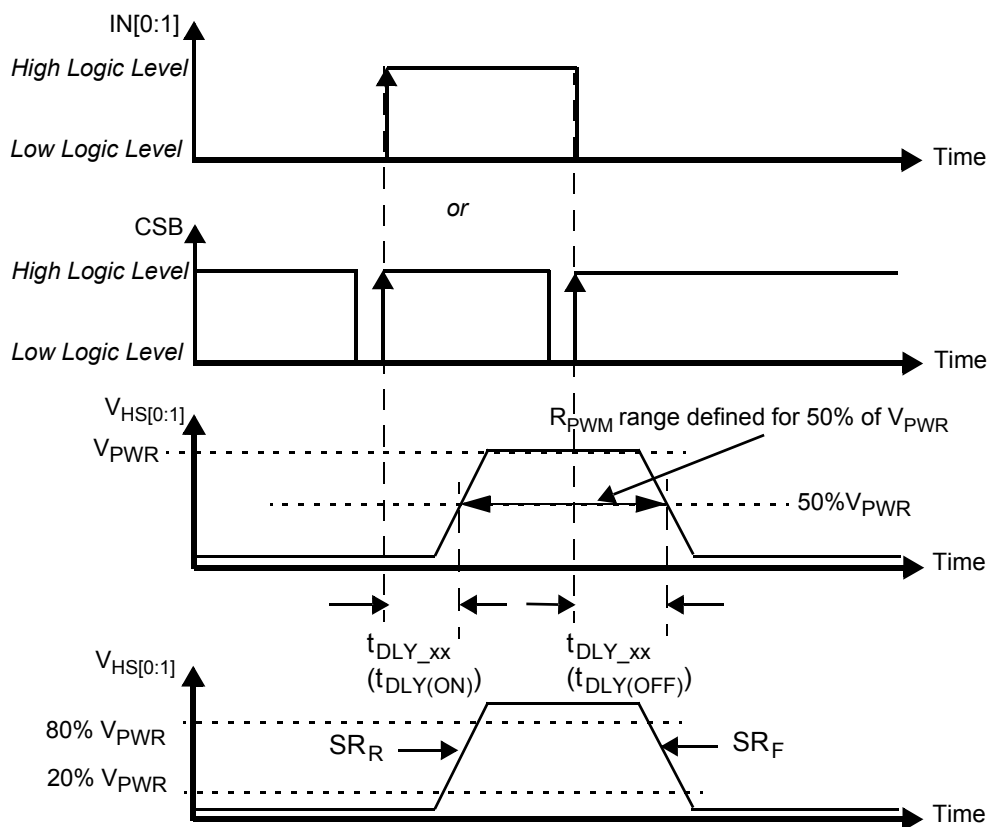
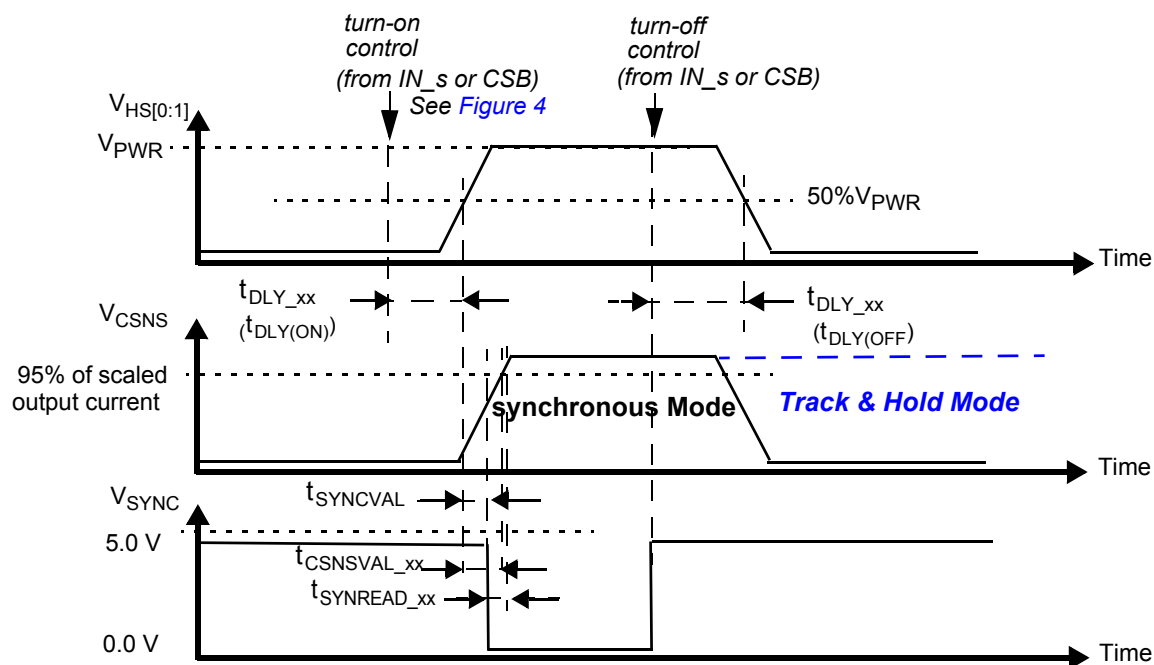

Figure 4. Output Voltage Slew Rate and Delay
Figure 9. Synchronous & Track-and-Hold Current Sensing Modes: Associated Delay & Settling Times
28. Rising and Falling edge slew rates specified for a 20 to 80% voltage variation on a 10 Ω resistive load (see Figure 4).
30. Time required to switch off the channel after detection of overtemperature (OT), overcurrent (OC), SC or UV error (time measured between start of the negative edge on the FSB pin and the falling edge on the output voltage until $V(\text{HS}[0:1]) = 50\%$ of V_{PWR}).
31. Settling time ($= t_{\text{CSNSVAL_XX}}$), SYNC output signal delay ($= t_{\text{SYNCVAL_XX}}$) and Read-out delay ($= t_{\text{SYNREAD_XX}}$) are defined for a stepped load current using a 10 Ω resistive load for $\text{CSNS_RATIO_S} = 0$. (see Figure 9 and Output Current Monitoring \(CSNS\)).
The CS pin allows independent current monitoring of channel 0 or channel 1 up to the steady-state overcurrent threshold. It can also be used to sense the device temperature. The different functions are selected by setting bits CSNS1_en and CSNS0_en to the appropriate value (Table 22). When the CSNS pin is sensed during switch-off in the (optional) track & hold mode (see Figure 9), it outputs the scaled value of the load current as it was just before turn-Off. When several devices share the same pull-down resistor, the CSNS pins of devices, the current of which is not monitored, must be tri-stated. This is accomplished by setting CSNS0_en = 0 and CSNS1_en = 0 in their GCR register (Table 11). Settling time ($t_{CSNSVAL_XX}$) is defined as the time between the instant at the middle of the output voltage's rising edge ($HS[0:1] = 50\%$ of V_{PWR}), and the instant at which the voltage on the CSNS pin has settled to $\pm 5.0\%$ of its final value. Anytime an overcurrent window is active, the CSNS pin is disabled (see Overcurrent Detection on Resistive and Inductive Loads). The current and temperature sensing functions are unavailable in Fail-safe mode and in Normal mode when operating without the V_{DD} supply voltage. In order to generate a voltage output, this pin requires a pull-down resistor ($R(CSNS)=1.0\text{ k}\Omega$ typ. and $470 < R(CSNS) < 10\text{ k}$). When the current sense resistor connected to the CSNS pin is disconnected, the CSNS voltage is clamped to $V_{CL(CSNS)}$. The CSNS pin can source currents up to about 5.6 mA.
To synchronize current sensing with an external process, the SYNC signal can be connected to a digital input of an external MCU. An open-drain pull-down on SYNC indicates that the current sense signal is accurate and ready to be read. The current sense signal on the CSNS pin has the specified accuracy $t_{SYNREAD_XX}$ seconds after the falling edge on the SYNC pin (Figure 9) and remains valid until a rising edge is generated. The rising edge that is generated by the SYNC pin at the turn-OFF instant (internal or external) may also be used to implement synchronization with the external MCU. Parameter t_{SYNVAL_XX} is defined as the time between the instant at the middle of the output voltage rising edge ($HS[0:1] = 50\%$ of V_{PWR}), and the instant at which the voltage on the SYNC-pin drops below 0.4 V (V_{SOL}). The SYNC pins of different devices can be connected together to save micro-controller input channels. However, in this configuration, the CSNS of only one device should be active at a time. Otherwise, the MCU is not be able to determine the source of the SYNC signal. The SYNC pin requires an external pull-up resistor to V_{DD} .